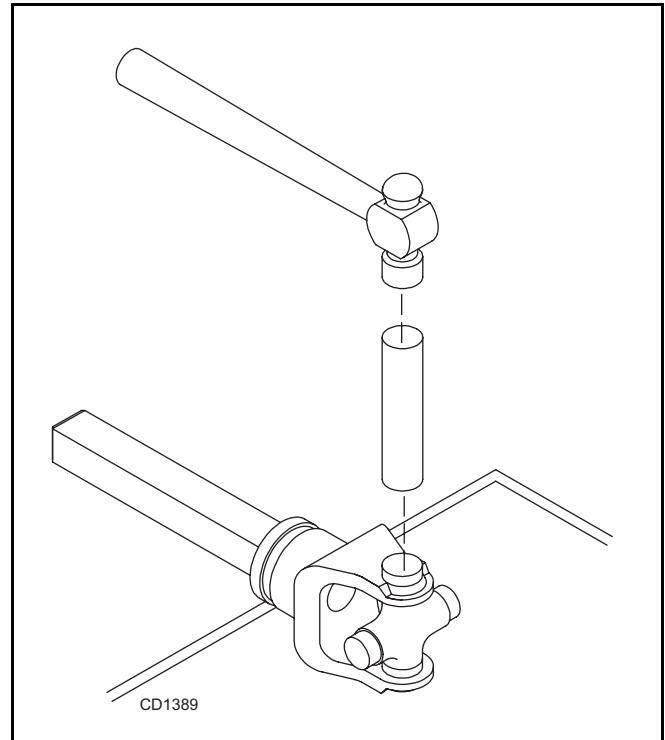

Figure 22
3. Seat cups by placing a drift or socket (slightly smaller than the cup) on cup and rap with a hammer. See Figure 22. Install snap ring and repeat on opposite cup.